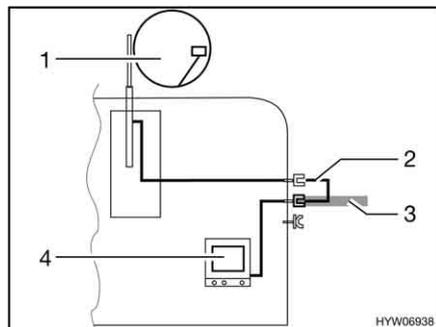

Fig. 117 TV inside the vehicle
- TV inside the vehicle (Fig. 117,4): Connection to roof antenna (Fig. 117,1) with connection cable (Fig. 117,2)
- TV inside the vehicle (Fig. 117,4): Connection to external antenna (Fig. 117,3)